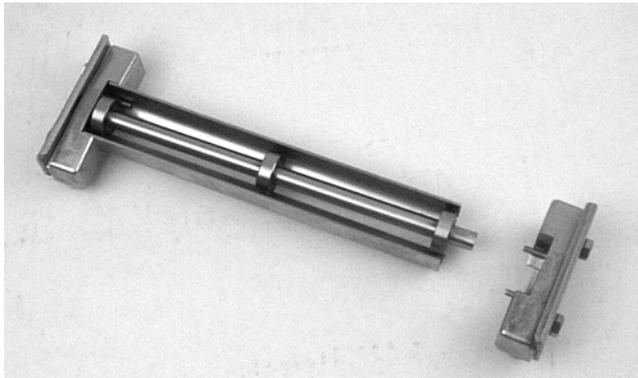

Figure 15
1. Typical components (Figure 15)